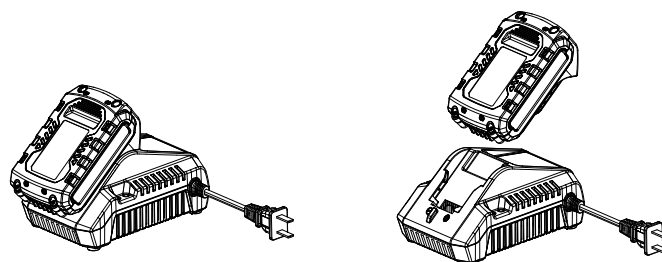

Fig. 4
5. The charger will communicate with the battery pack to evaluate the condition of the battery pack (Fig.4).